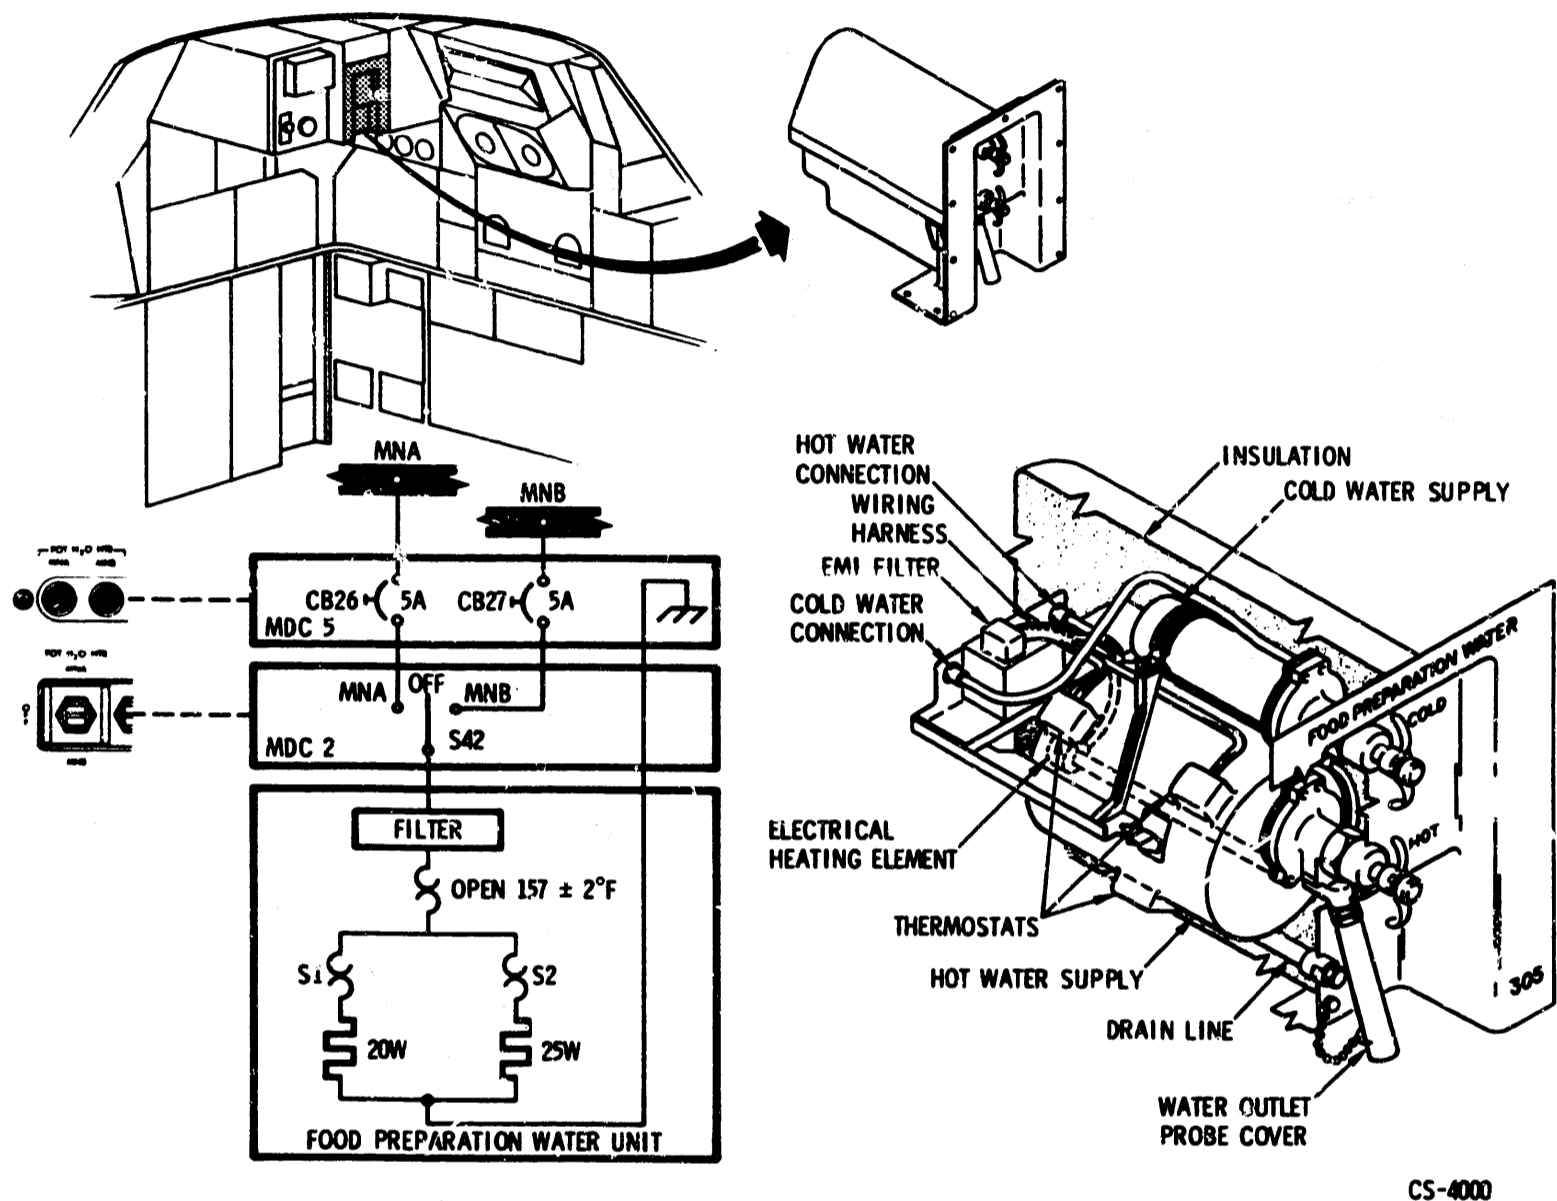

Figure 2.12-39. Food Preparation Water System
2.12.6.1.2 Food Preparation Water (Figure 2.12-39).